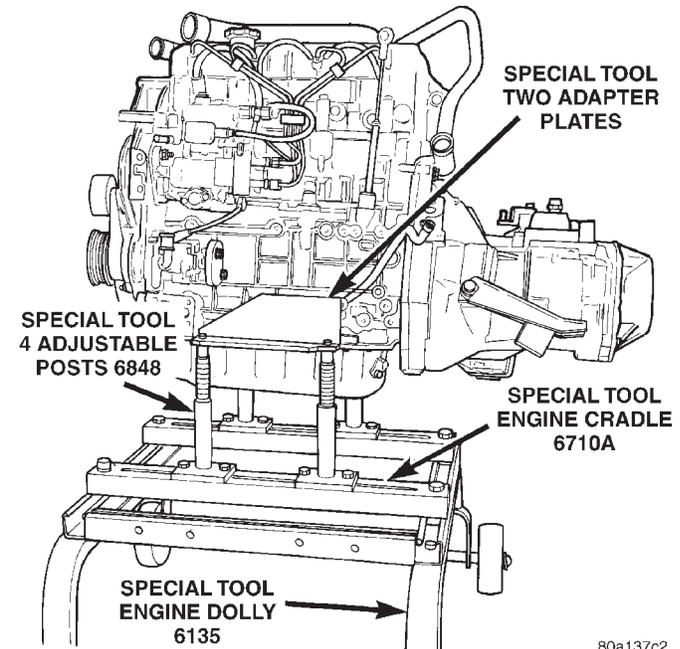

Fig. 22 Engine Removal
- (34) Hoist vehicle.
- (35) Remove exhaust pipe at turbo outlet.
- (36) Remove connections at starter.
- (37) Remove power steering high pressure line bracket at rear of oil pan.
- (38) Remove both driveshafts from transaxle. Refer to Group 2, Suspension and Driveshafts.
- (39) Disconnect clutch cable at transaxle.
- (40) Remove reinforcement plate on lower crossmember.
- (41) Remove front and rear engine mounts. Refer to procedure outlined in this section.
- (42) Drain engine oil and remove oil filter if necessary.
(43) Mount both special tool, engine support brackets VM-1026 to cylinder block (Fig. 22).
(44) Using engine dolly and cradle assembly with 4 adjustable posts align posts with holes in the engine support brackets.